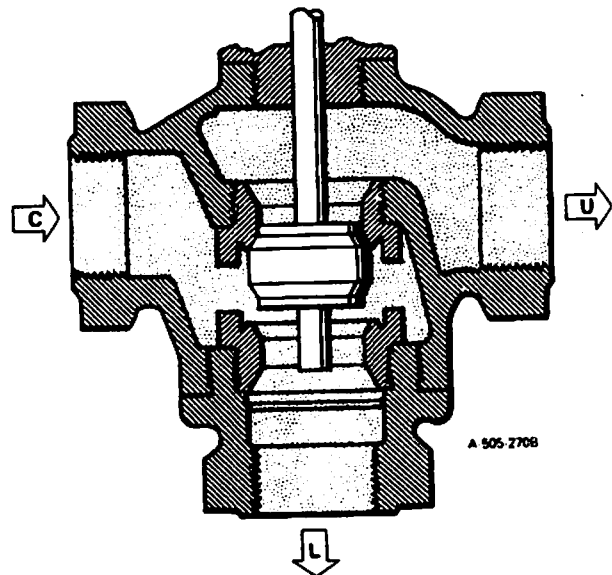

Figure 2. Three-Way Valve Body, Two Position Diverting Service
**Two Position Diverting type, Figure 2** — In this type of application, ports "C" and "L" are normally connected. When the valve plug moves downward, ports "C" and "U" are connected. This movement allows the flow to be diverted to the "U" port.